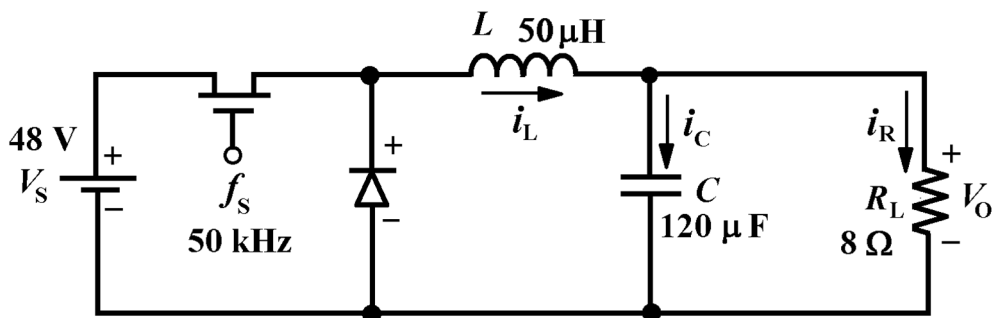

Figure 2
- For the given Buck Converter shown in Fig. 2, determine: